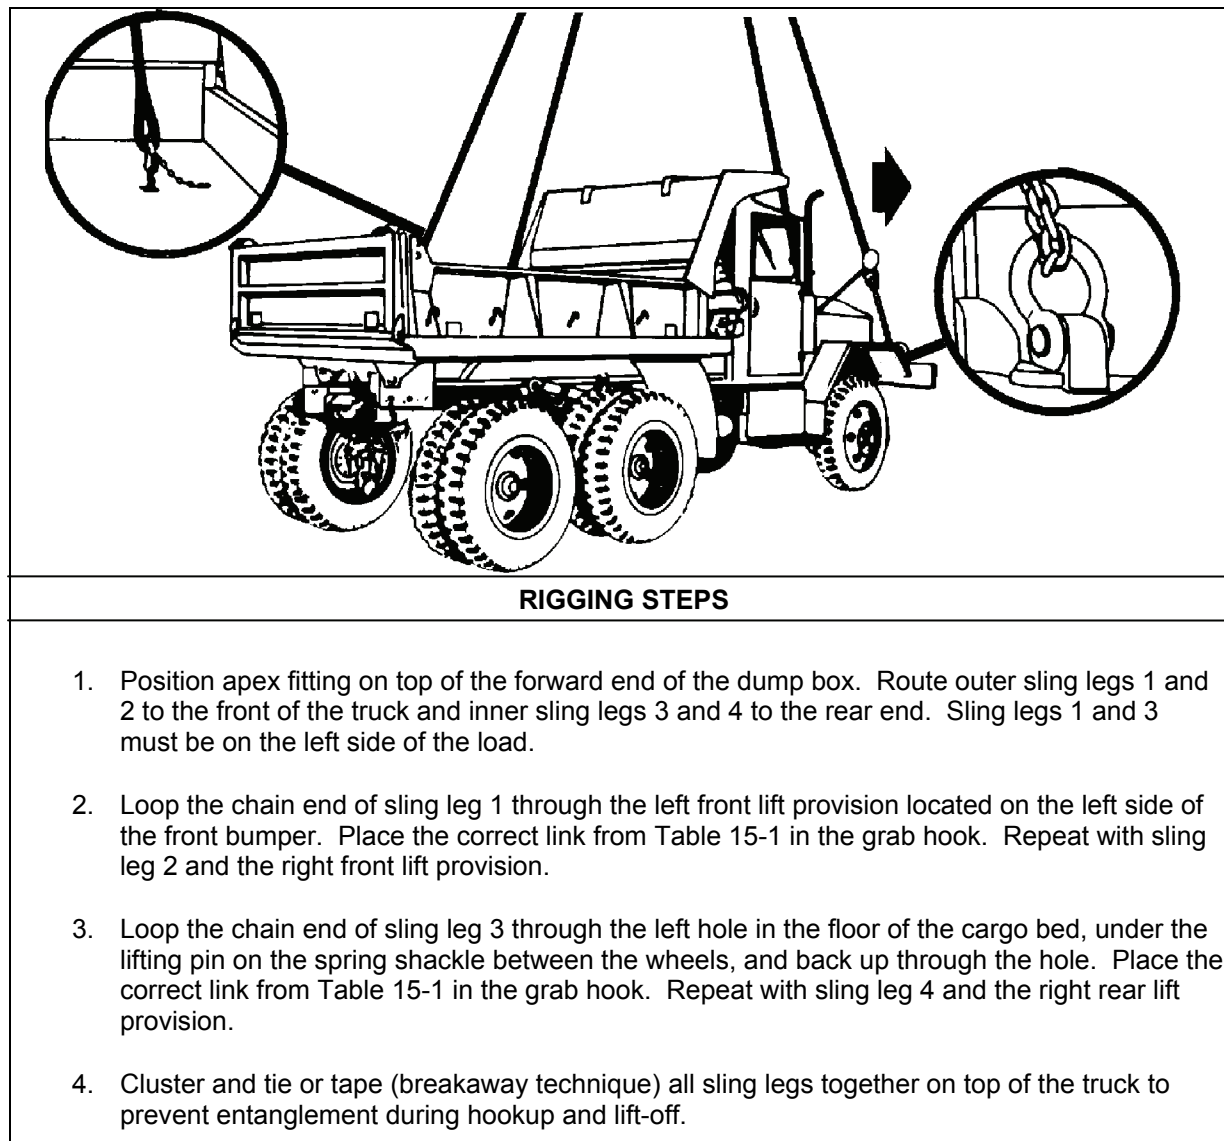

Figure 15-1. M342A2 2 1/2-Ton Dump Truck with Winch
- **Rigging.** Rig the load according to the steps in Figure 15-1.